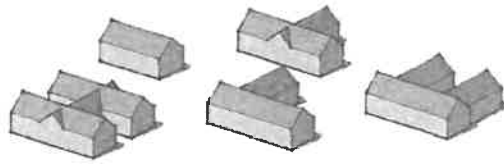

Figure 3: Letter of the alphabet type buildings
- a) The **Core building** (main dwelling) must conform to the traditional "letter of the alphabet" building form. In this particular typology, the plan form of the **Core Building** resembles the letters I, T, L, H, U or variations thereof. The latter constitutes the main body of the buildings on an erf (Refer to Figure 3).